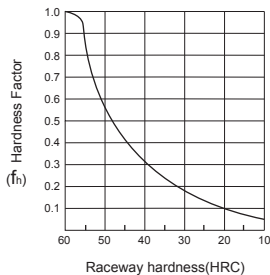

Fig 1.3.2 Hardness Factor (fh)
$f_h$  : Hardness factor (Fig1.3.2)
- C : basic dynamic-load rating (N)
- Pc : calculated load (N)
- fh : hardness factor (Fig 1.3.2)